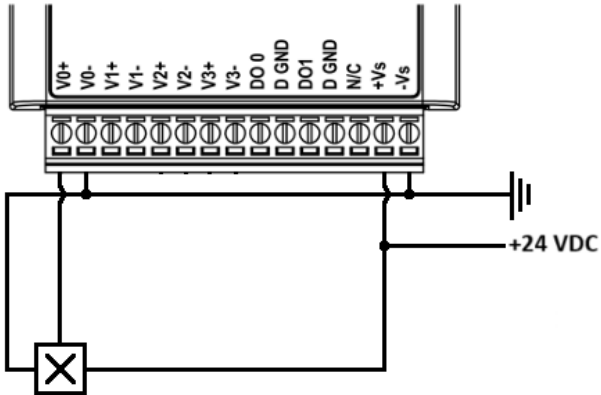

Figure 2 – Magnetic cam switch wiring.
- The latching magnetic cam switch (DA51721). See figure 2.